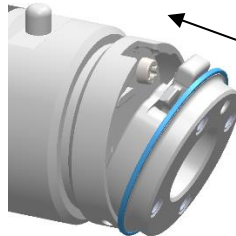

Figure 1.3
- 3) Pivot the tool-part into the robot-part till it makes a 'click' sound (*figure 1.3*)